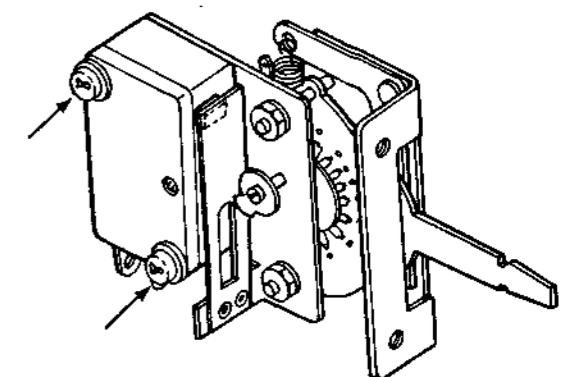

Fig. 2-7. Microswitch Replacement
- Note: The microswitch can be removed from the toggle bracket by loosening two Phillips-Head Screws. See Fig. 2-7.